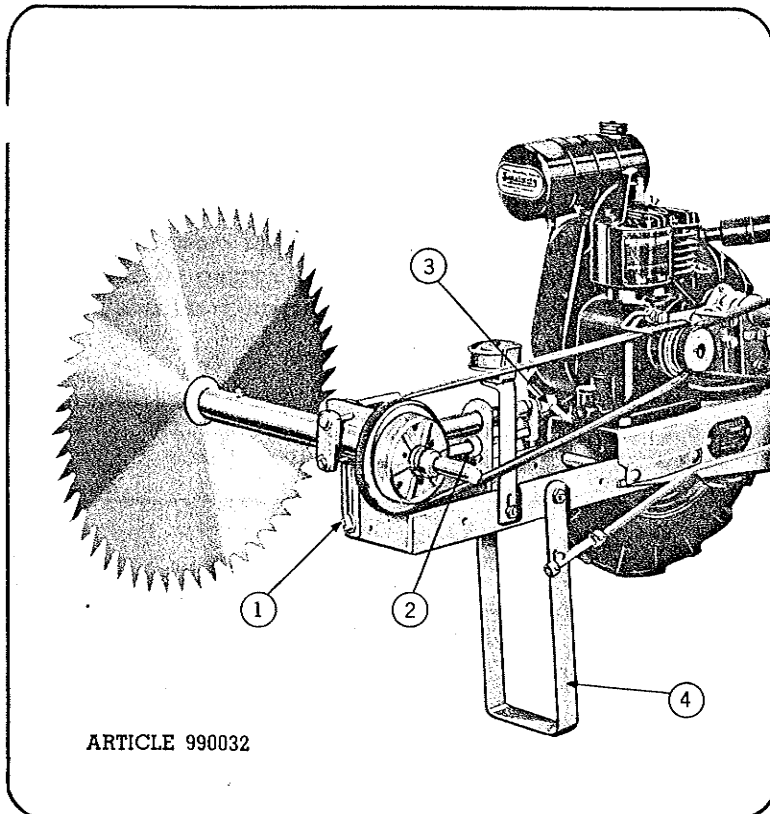

Figure 2 — Saw Mounted in Vertical Position
(See Figure 2)
1. Follow same steps for mounting saw in horizontal position except arbor should be placed in horizontal position by loosening arbor prop nut (1, Fig. 2) and swinging saw blade into vertical position. V-belt runs on outside of belt support (A) as shown.
2. Arbor pulley should be lined up with middle groove of engine pulley as illustrated in Figure 2.
3. Tighten set collar (2, Fig. 2) on adjusting screw assembly and turn tightener screw (3, Fig. 2) until belt is tight; then lock with nut (4, Fig. 2).
1. Place saw in vertical position as shown in Figure 2.
1. To raise or lower stand (4, Fig. 2) hold down tractor handles slightly and move left clutch lever to the rear or forward. Stand must be raised when using saw in horizontal position (Fig. 1). Lower stand when using saw in vertical position (Fig. 2) except when using cradle.